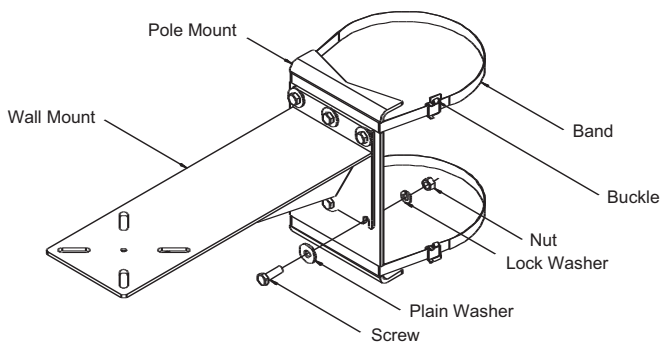

Figure 3: Securing Model MT9225
4. For model MT9225 with a MT9216 or a MT9222, secure the wall mount to the pole mount using the six (6) 12 mm screws, plain washers, lock washers and nuts provided. See **Figure 3**.